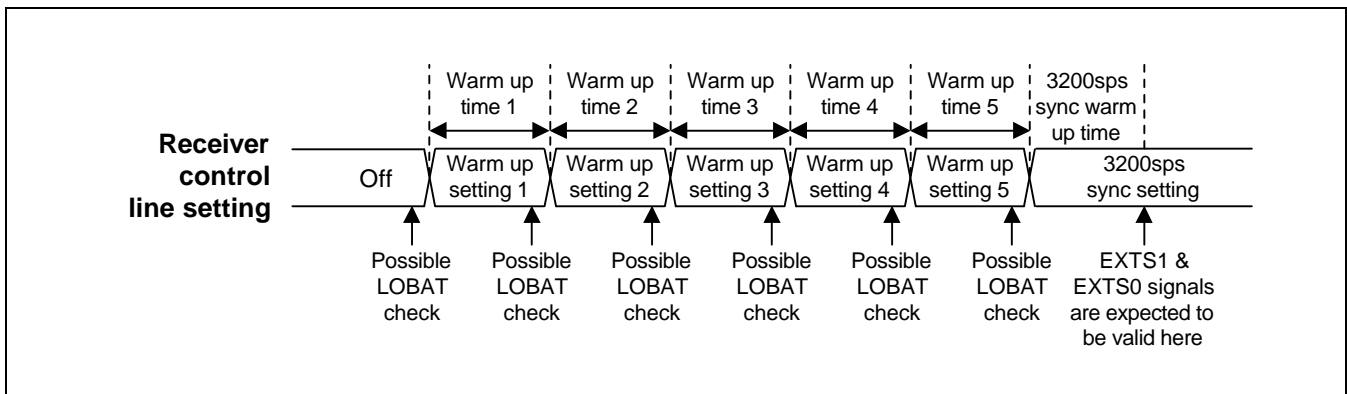

Figure 12: Host Initiated Receiver Warm Up Sequence
The host can cause the S5T8702 to warm-up the receiver in three ways: (1) by turning on S5T8702 by setting the **ON** bit in the control packet; (2) by requesting a noise detect by setting the **SND** bit in the roaming control packet; or (3) by requesting an A-word search by setting the **SAS** bit in the roaming control packet. When the S5T8702 warms up the receiver in response to a host request, the first warm up setting, if enabled, is applied to the receiver control lines for the amount of time programmed for that setting. Each subsequent warm up setting is applied to the receiver control lines for their corresponding time until a disabled warm up setting is found. Once a disabled warm up setting is found, the "3200sps Sync Setting" (for **ON** and **SND** warm ups) or the "1600sps Sync Setting" (for **SAS** warm ups) is applied to the receiver control lines and the decoder does not expect valid signal until after the "3200sps Sync Warm Up Time" (for **ON**, **SND**, and **SAS** warm ups) has expired. In figure 12 on page 48 the receiver warm up sequence when the host initiates a warm-up sequence and when all warm up settings are enabled is shown.